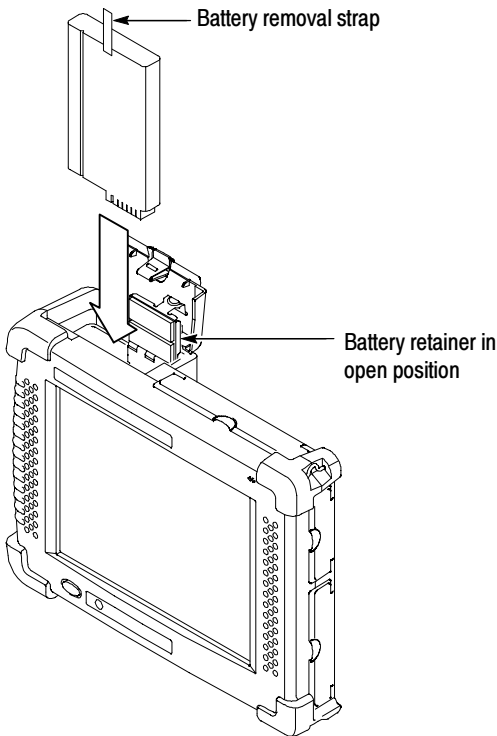

Figure 1-6: Installing a battery
6. Position the battery as shown in Figure 1-6. The battery electrical contacts, on the bottom of the battery, must face in the direction shown in Figure 1-6.
2. Place the NetTek Analyzer Platform on a flat surface with the touch-screen display facing towards you and the battery compartment door facing up. See Figure 1-6 for component locations.